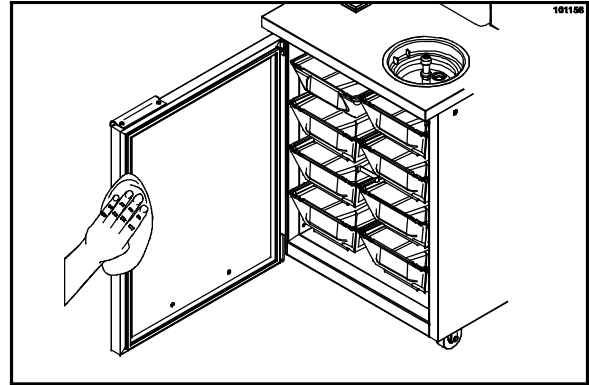

Figure 59
32. Use clean, sanitized towels and the spray bottle of sanitizing solution to remove any residual soils or cleaners. Wipe down the interior of the refrigerated cabinet, paying particular attention to the gaskets and edges of the cabinet door. (See Figure 59.)